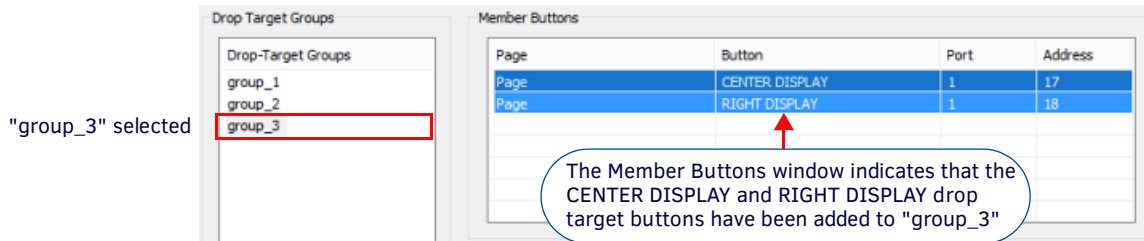

FIG. 262 Drop-Target Groups dialog - the RIGHT DISPLAY dropTarget button is a member of "group_3"
3. Select RIGHT DISPLAY and click **Add to Group** to move it into the *Member Buttons* window. This indicates that the RIGHT DISPLAY Drop Target button is now a "member" of the "group_3" Drop-Target Group (FIG. 262):